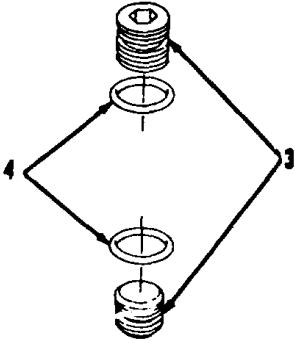

Figure 10-112.
- 5. Remove and discard two preformed packings (4) from plugs (3, Figure 10-112).